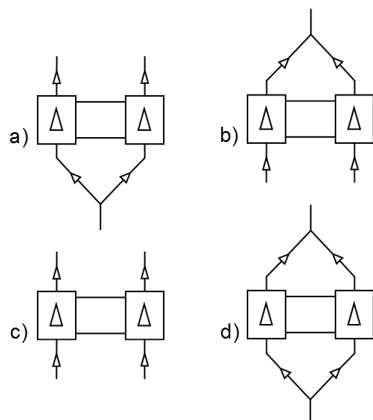

Fig. 8: Hose connection options for NFB versions
- ➔ Configure pump head hoses in parallel (see Fig. 8).